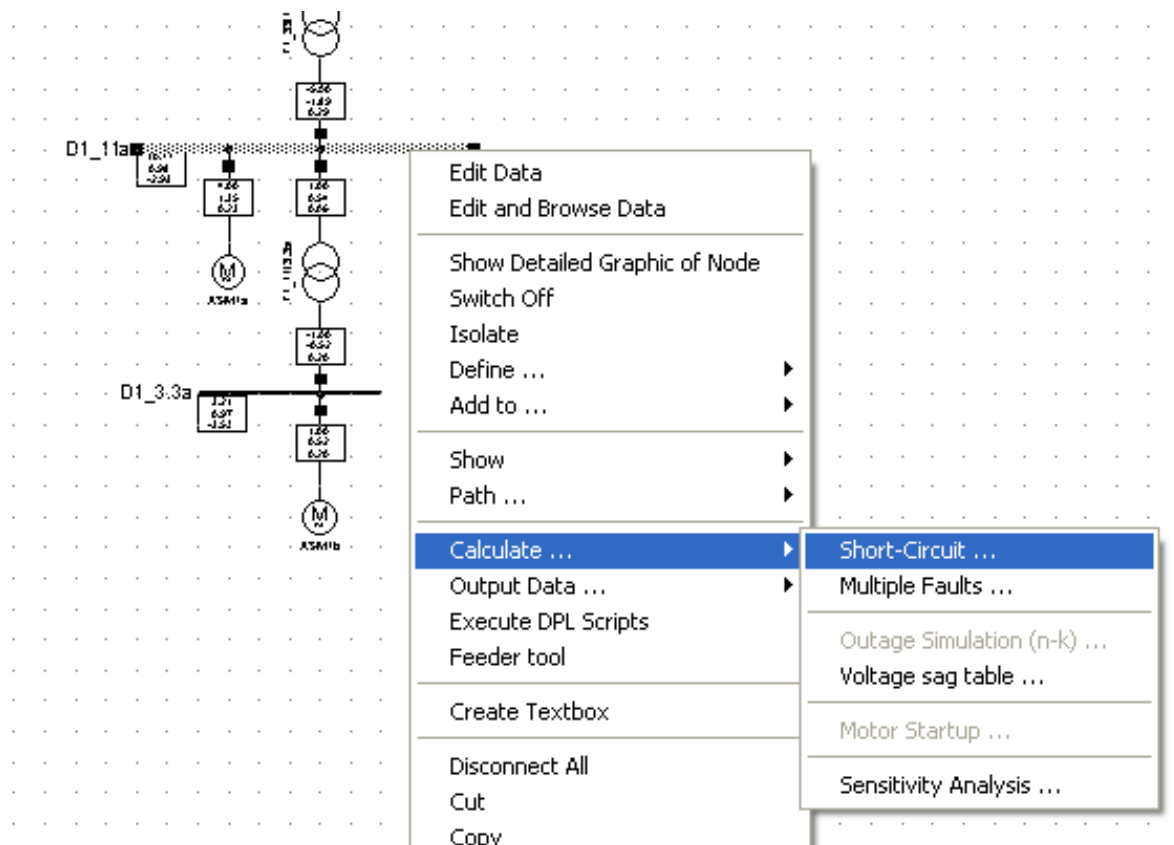

Figure D.5.1: Starting a short-circuit calculation from the single line graphic
- Right click the 11 kV busbar "D1\_11a", and select the *Calculate* → *Short-Circuit* option as shown in Figure D.5.1.